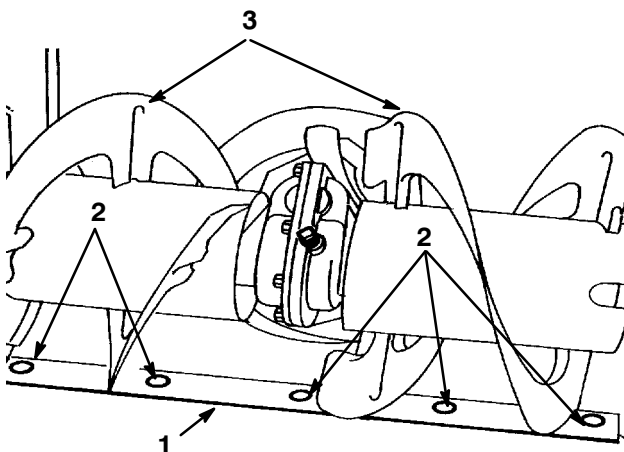

Figure 32
5. Support the **auger blades** so that they are 1/8 inch (3 mm) off the ground (Fig. 32).
7. To adjust the scraper, loosen the five mounting screws (Fig. 32), level the blade, and tighten the mounting screws.